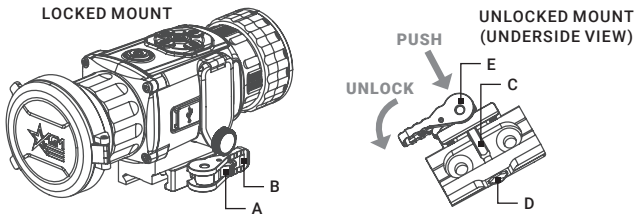

FIGURE 2-9. OPERATION OF THE QR MOUNT
To install the Rattler TC on a Picatinny/Weaver rail, perform the following (Figure 2-9):
2. With the clamping device unlocked (as shown in Figure 2-9), push the cam (E) towards the arrow, which will cause the nut (D) to slide out of its hole.
3. To tighten/ loosen the clamping device, push down on the cam (E) and turn the nut (D) CW/ CCW respectively, in one-two increments (see note below). Much like when the cam (E) is released, backward-moving spring will cause the nut (D) to slide back into its hole.